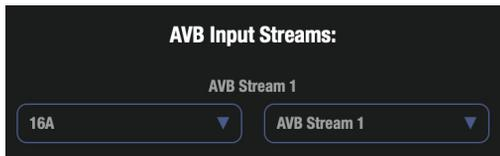

Figure 9-2: Connecting an input stream.
- 4 Go to the Device tab. In the *AVB Input Streams* section choose the 848 as a source device for one of the streams and choose *Media Clock* for its *Source Stream* (Figure 9-2 on page 75), if compatible. If not, choose any available input stream from the menu.